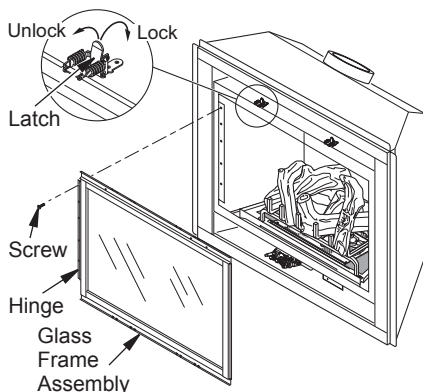

Figure 41 - Removing/Replacing Glass Door
2. Lift up on latches to unlock. There are two on top of firebox and two below firebox that hold glass door in place (see Figure 41).
5. Close glass door frame. Lock latches by placing bar under tab on door and pushing down and back on latch (see Figure 41).